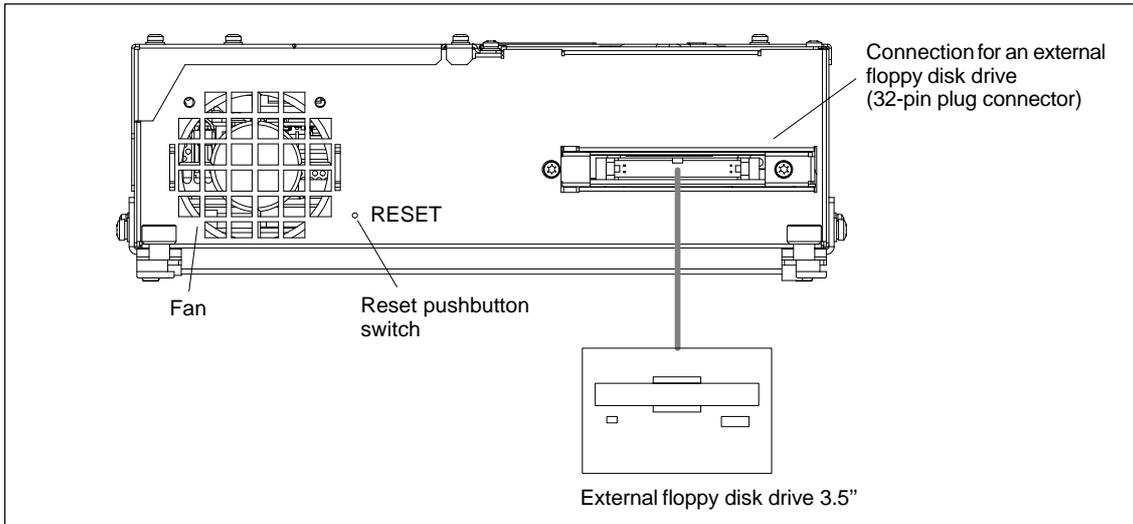
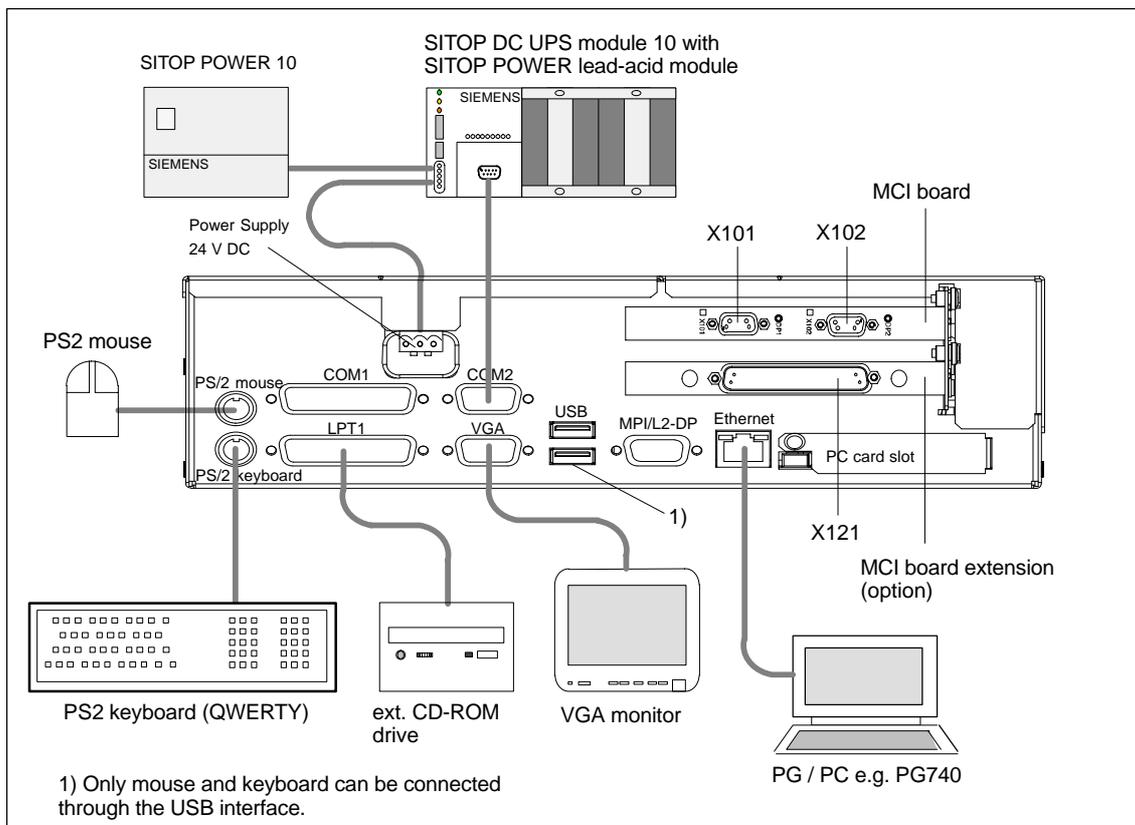

Fig. 3-8 SINUMERIK 840Di PCU 50, left housing side
Fig. 3-9 SINUMERIK 840Di PCU 50 (right housing side)
- 5) For an overview of the standard PC interfaces, see Fig. 3-8, Page 3-106 and Fig. 3-9, Page 3-106.